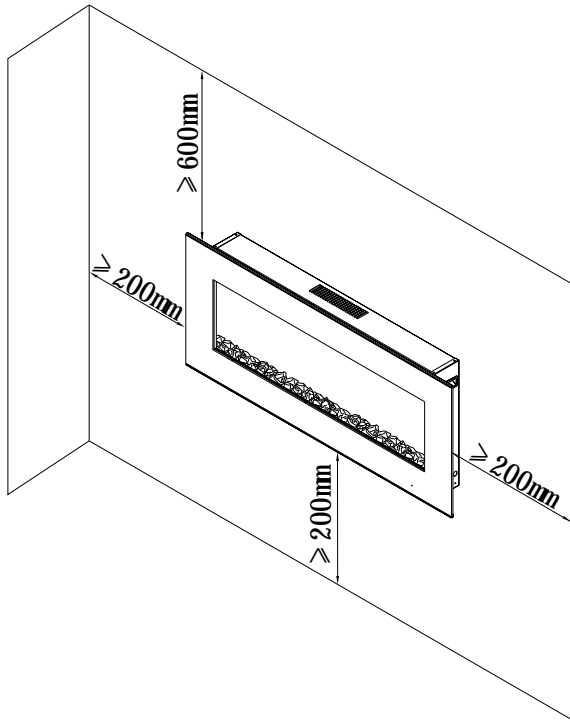

Fig 3
- 2.Referring to Fig. 3 below select a suitable position in which to mount the heater horizontally – use a spirit level to achieve this.